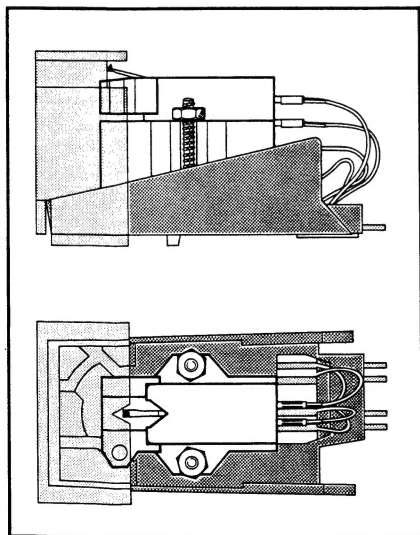

Fig. 12
2. Secure the cartridge with the help of the accessories and gauge supplied with the cartridge holder Dual TK 14 and the cartridge. Be sure it is located correctly (Fig. 12).